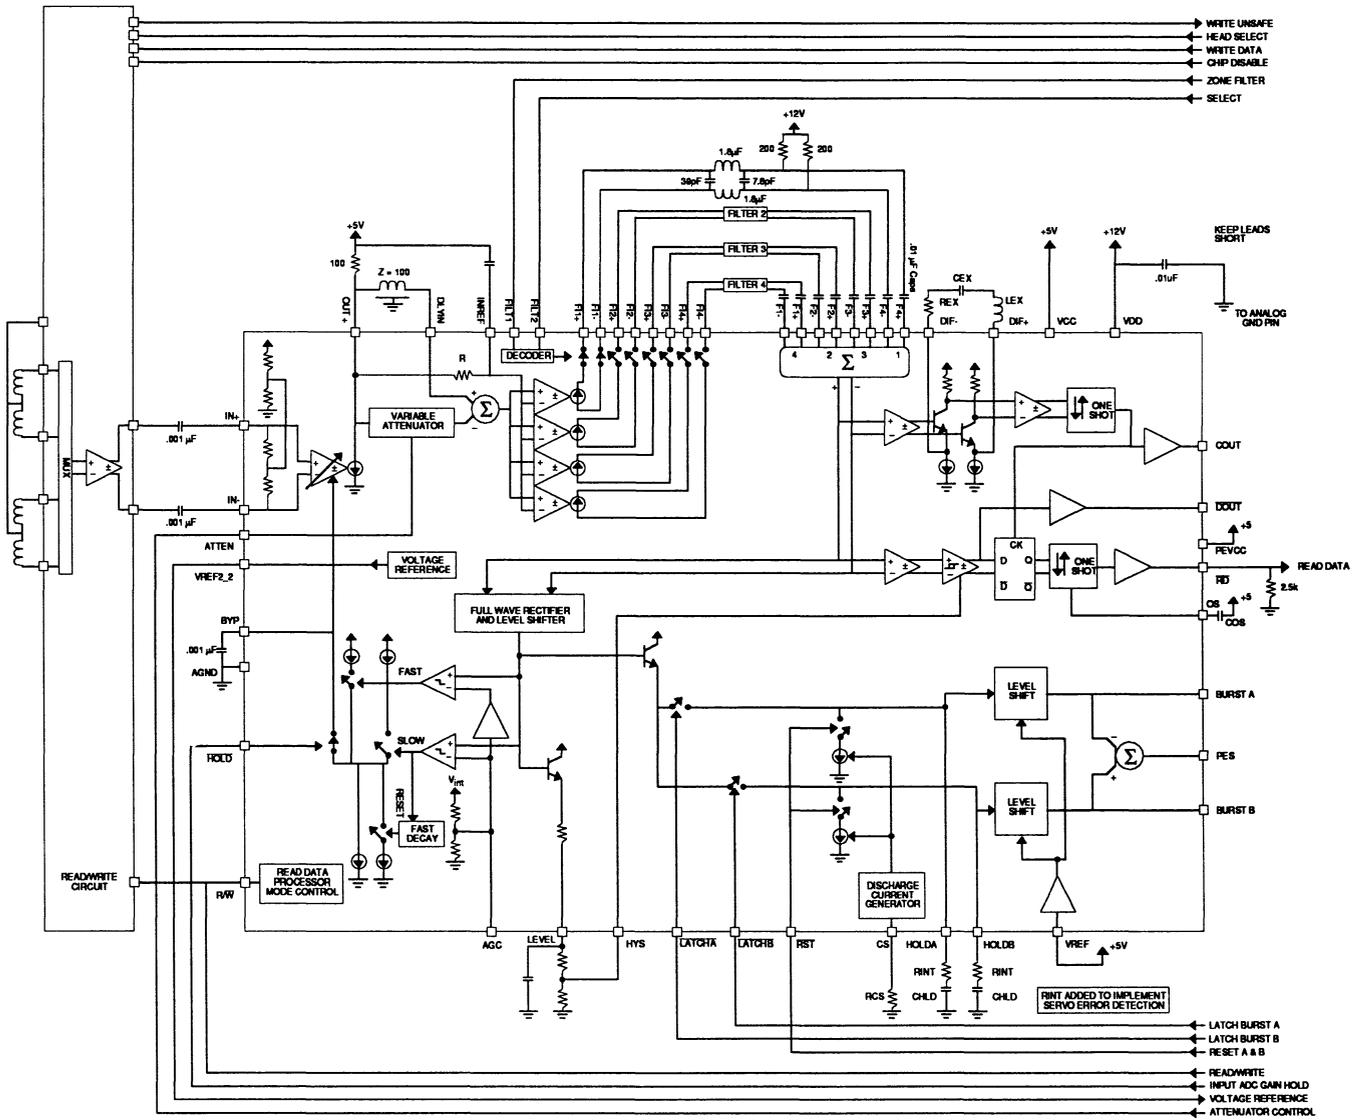

FIGURE 5: Applications Circuit Diagram
1. The circuit is connected as in Figure 5.